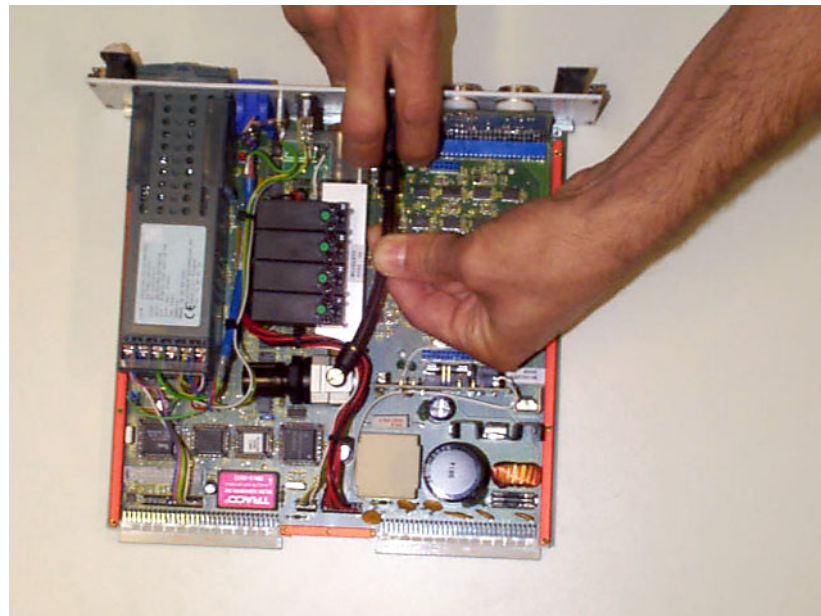

Figure 2.3. Dismount the gas tube
4. Disconnect the inlet gas tube (see **Figure 2.3.** on **page 20**).